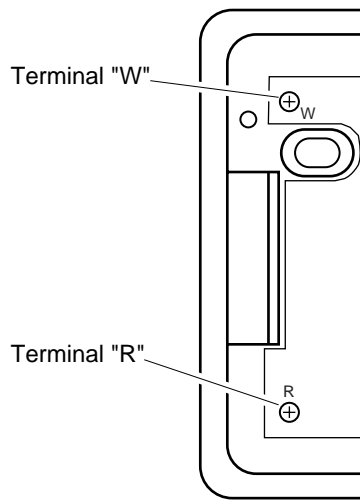

Figure 33 - Thermostat Base Terminals "W" and "R"
6. Connect one bare wire end to each terminal ("W" and "R") of the thermostat base (see Figure 33).